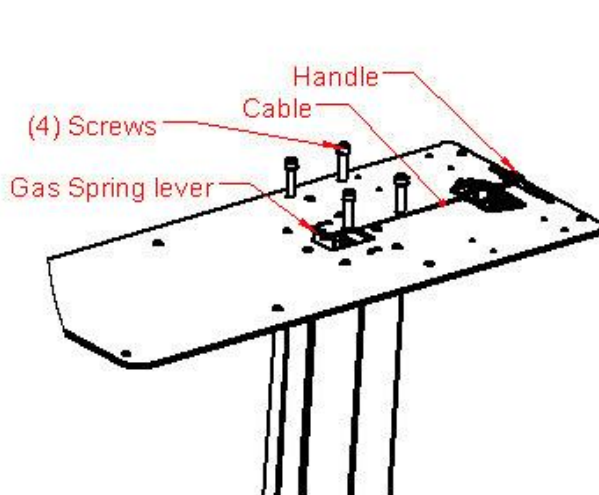

Figure 6
5.3 Remove the cover plate and wrench as shown in Section 1. Loosen the cable turnbuckle by first loosening the lock nut, then unfasten the end of the cable attached to the handle. Next remove the other end of the cable from the gas spring lever (Figure 6).
5.4 Remove the top plate by first loosening (4) screws (Figure 6). A power driver may be required for this operation.
5.13 Attach the Top plate to the column with the 4 screws removed in step 5.4 (Figure 6). Reattach both ends of the cable to the handle & gas spring lever. Adjust the cable so that there is a small amount of slack to ensure that the gas spring is not activated. Secure the lock nut.